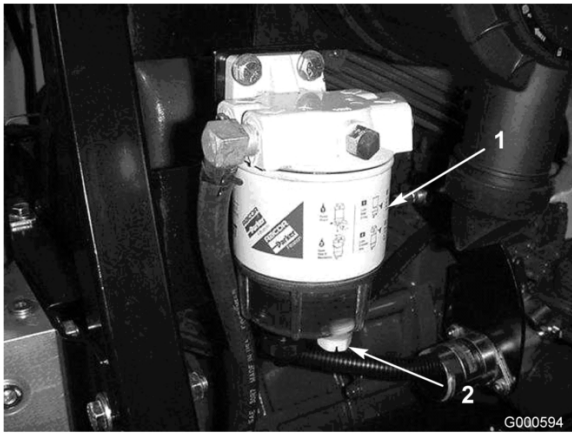

Figure 34
Drain water or other contaminants from the water separator (Figure 34) daily.
2. Loosen the drain plug on the bottom of the filter canister (Figure 34). Tighten the plug after draining.